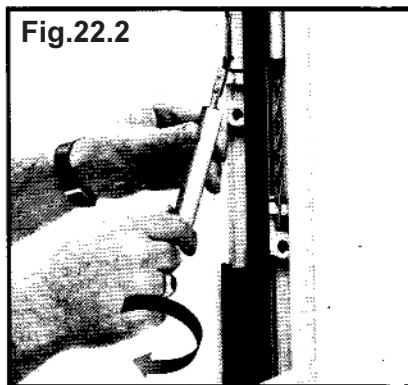

Fig.22.2
- To apply tension, lock tensioning tool around the lower pin in the rod. **ROTATE TOOL CLOCKWISE** for the required number of turns (established from the tensioning chart - page D4). Allow rod to retract fully and latch top cross pin into the pivot shoe slot (Figs. 22.2 & 22.3).